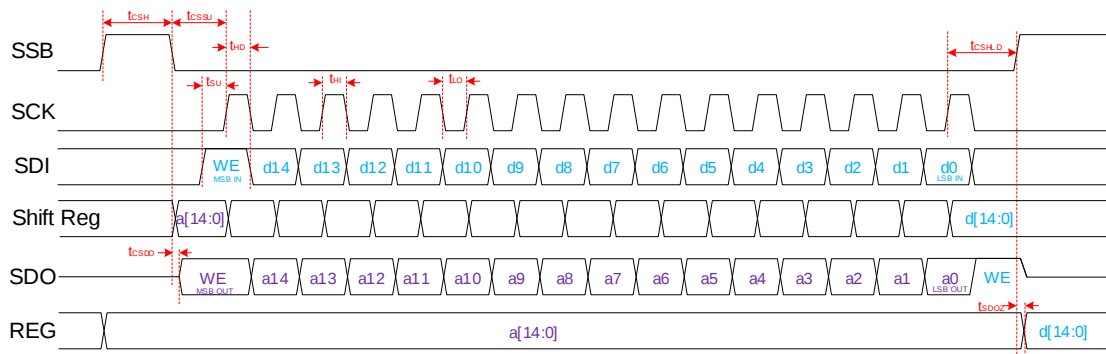
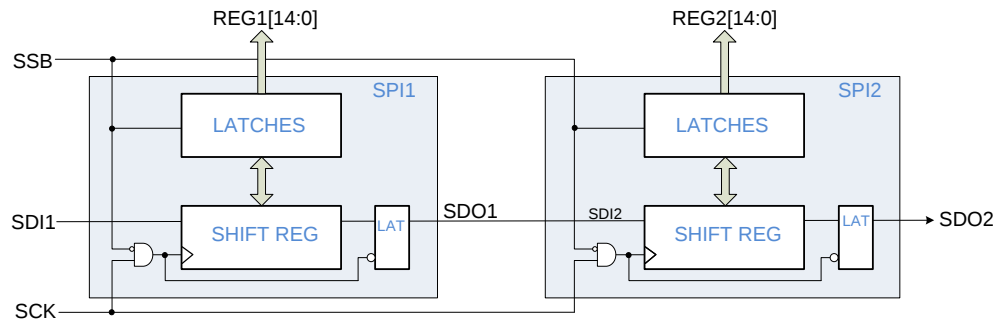
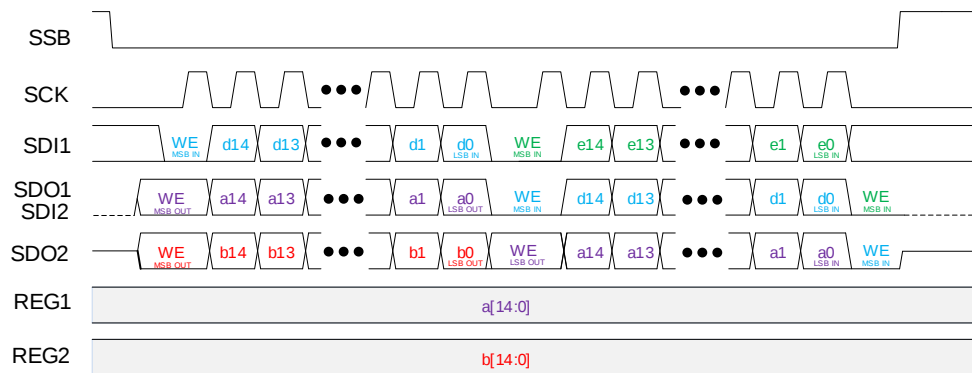
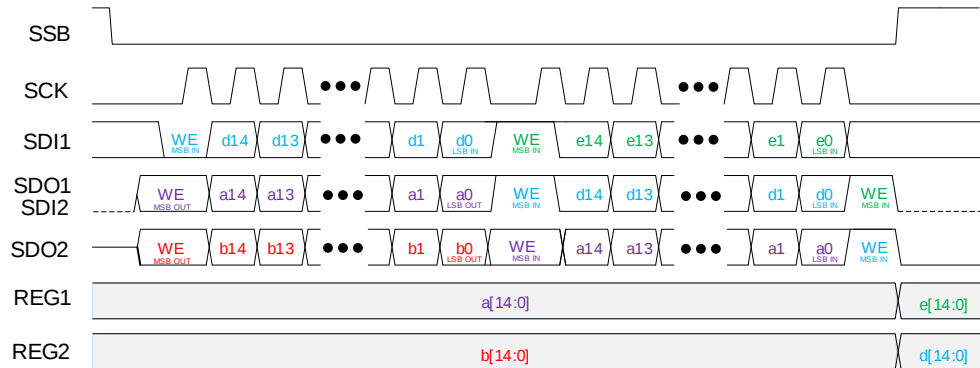

Figure 8. SPI Timing Diagram
Figure 11. SPI with 2 ICs Daisy-Chained
Figure 12. SPI Read Only (2 ICs Daisy-chained)
Figure 13. SPI Read & Write (2 ICs Daisy-Chained)
MODE = 0, activates the 16-Bit Serial Peripheral Interface (SPI) module for operation. Multiple devices can be daisy-chained to drive multiple ICs using one SPI bus (see Daisy Chain Operation, Figure 11, Figure 12, and Figure 13). The SPI works at any frequency up to a maximum of 33 MHz and may operate at significantly lower frequencies if the logic signals adhere to the data setup and hold requirements.
SPI timing diagrams are provided in Figure 8 through Figure 13. In SPI mode, data transmission starts when SSB goes Low, causing the Target to output the Most Significant Bit (MSB) of data to the SDO (MISO) pin. Data transfer from Host to Target takes place during the rising edge of the clock (SCK), which is idle when SSB is High. This mode of operation requires data for Host and Target to be present on SDI (MOSI) before the rising edge of the clock (defining SDI to SCK setup time). Data is pushed out of the SDO (MISO) pin during the falling edge of the clock. After the first 16-bit transaction, Host writes the latest data (DN) to
Daisy chaining the ICs is permitted and involves connecting the SDO of one chip to the SDIN of the next chip in the chain, as shown in Figure 11. SPI timing diagrams with daisy-chained devices are provided in Figure 12 and Figure 13.